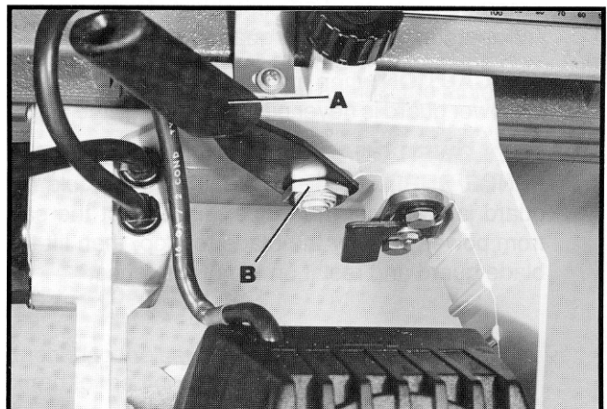

Fig. 58
When the yoke clamp handle (A) Fig. 58, does not lock in a convenient position, it can be repositioned as follows:
1. Loosen Pal-nut (B) Fig. 58.
2. Reposition yoke clamp handle (A) Fig. 58, on hex clamp nut.
3. Tighten Pal-nut (B) Fig. 58.